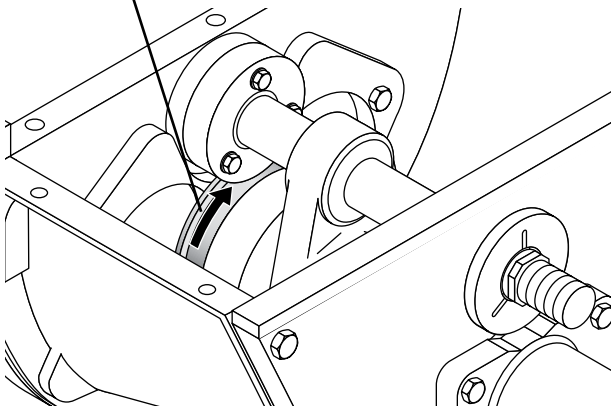

Figure 13
7. From inside the hopper, tap the cutting ring forward, towards the spectacle plate. The ring should come loose. (If it does not, loosen the cover bolts a little more, then gently pry the Rock Valve rearwards a little more). Rotate the ring 90° clockwise (Figure 13). It does not matter which way you rotate, but to keep from forgetting which way you went last time, we recommend going clockwise each time.